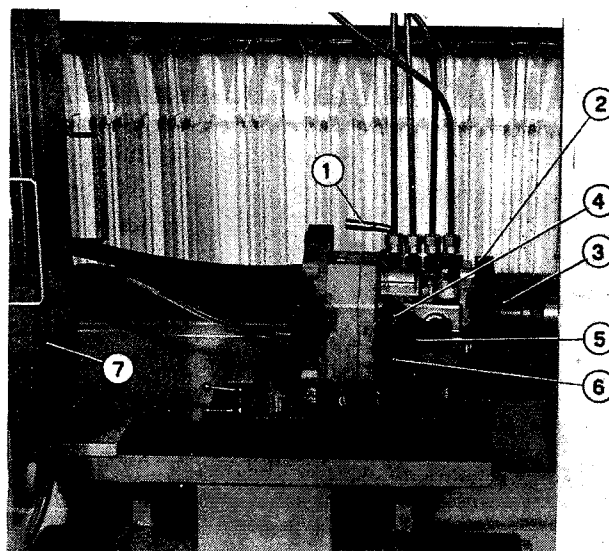

Fig. 2 - Detail View of the Injection Pump on Test Bench.
(3 in fig. 2), after removal, however, of the drive gear from the pump. Moreover, the pump is secured to a support (2 in fig. 2) which slides longitudinally on tracks.
Figure 2 shows, in particular, the pump mounting onto the support and the drive connection to the bench head. Figure 2 also shows gauge 8015377 (6), for setting the pump, fitted into the pump housing slot, and pin 8013352 (4) by which the pump control lever (5) is held in the desired position (in the figure, the lever is in the minimum position).
- one type (7 in figure 2), with even section, suitable for checking deliveries of up to 40 cu. cm. (2.44 cu. in.);
- one type (19), with uneven section, suitable for checking deliveries from 40 to 70 cu.cm. (2.44 to 4.27 cu.in.).
- Slacken, as far as possible, the nut securing the support (2 in fig. 2) to the bench;
- Leave the cock (1 in fig.2) on the delivery line slightly open (the same cock used for the injection pump test).